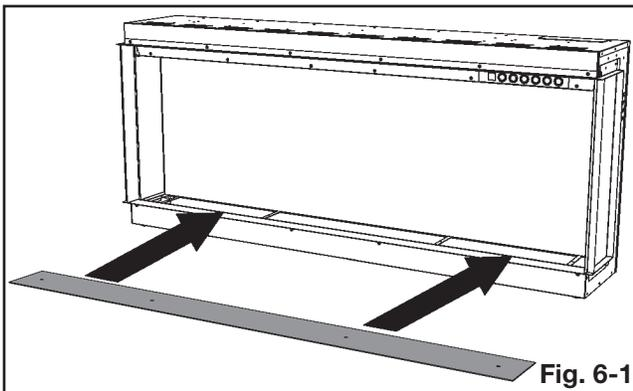

Fig. 6-1
1. Place the glass media holder in position (**Fig. 6-1**).